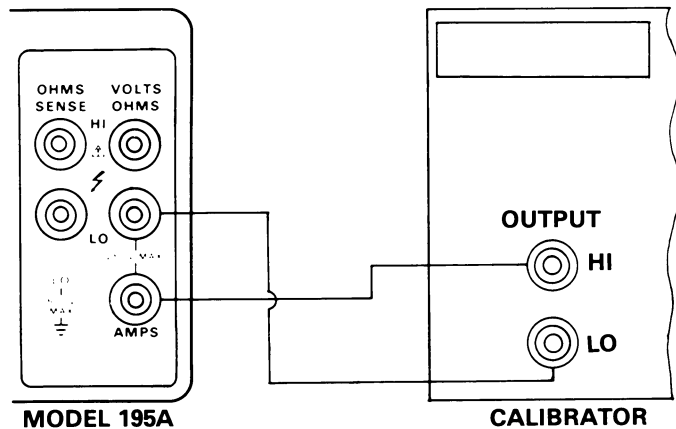

Figure 5-4. Verification Connections for Current
- Connect the AC calibrator to the instrument as shown in Figure 5-4. Set the calibrator frequency to 1kHz and see that the Model 195A INPUTS switch is in the front panel position. Do not use ZERO in the AC mode.